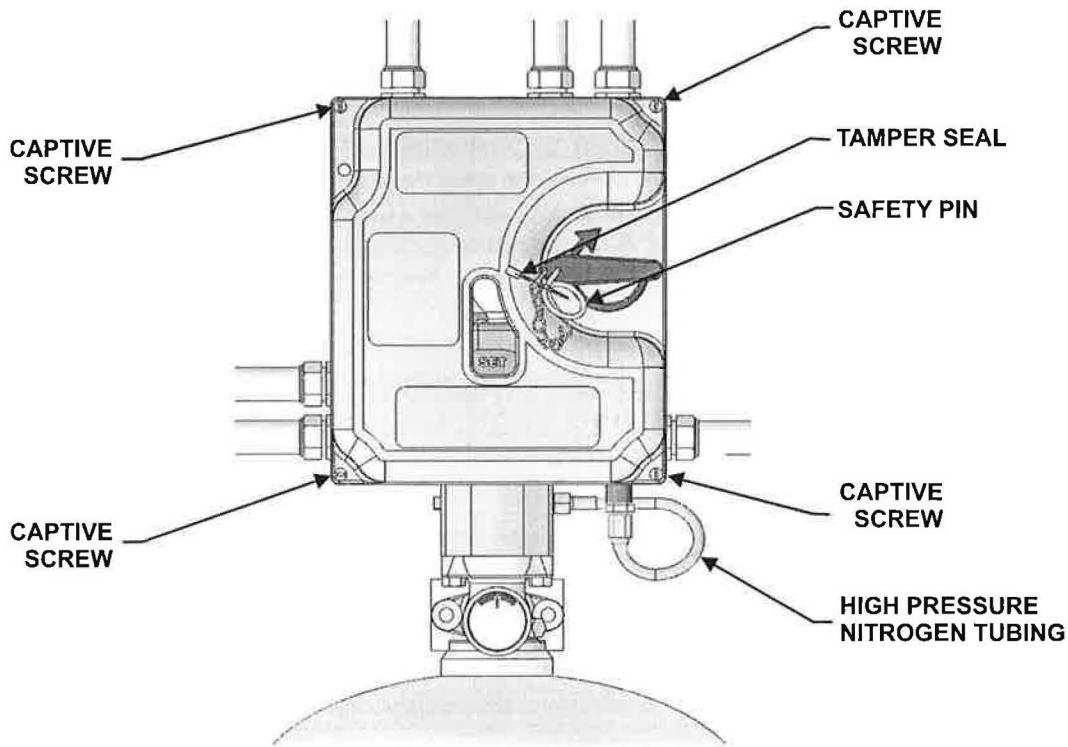

Figure 4-93. Cylinder Mounted UCH Control System
- Secure the High Pressure Nitrogen Tubing back onto the bottom of the UCH Control System. Ensure that the fit is properly snug to prevent leakage. Refer to Figure 4-93.